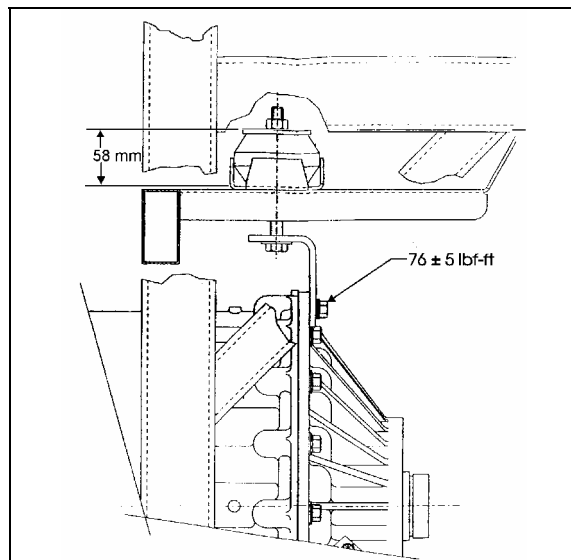

FIGURE 13: NUT TOLERANCE
10. If the vehicle is equipped with a retarder; install the bracket on the transmission and tighten the bolt to 71-81 Lbf-ft (96-110 Nm). Install the transmission rubber mount between the rubber support and the frame with a bolt, nut and washer. Tighten the nut until the tolerance of 58 ± 2 mm is met (Fig. 13).